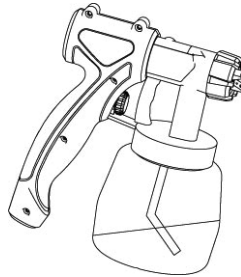

FIGURE 9.3
- Works on objects placed horizontally: Adjust the delivery pipe forward (see Figure 9.3);